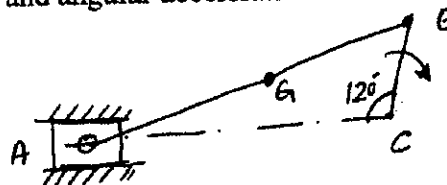

Fig.Q3
- 3 A single slider crank mechanism shown in Fig.Q3, has the crank $CB = 100\text{mm}$ and connecting rod $BA = 300\text{mm}$, with centre of gravity G 100mm from B . The crankshaft has a speed of 75 rad/sec and an angular acceleration of 1200 rad/sec^2 . Find